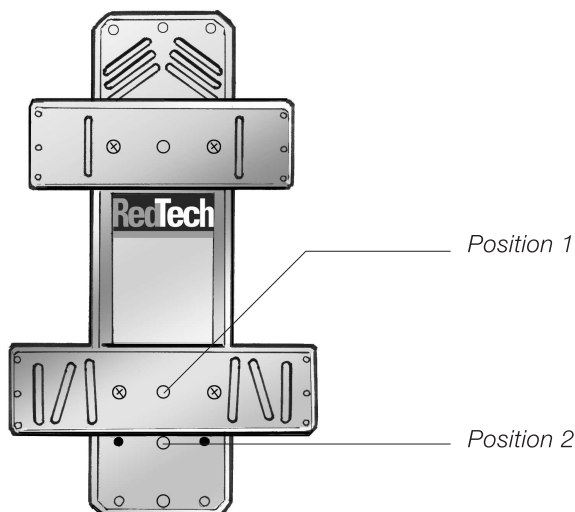

Figure 1: Back-plate
- made of stainless steel (Figure 1)